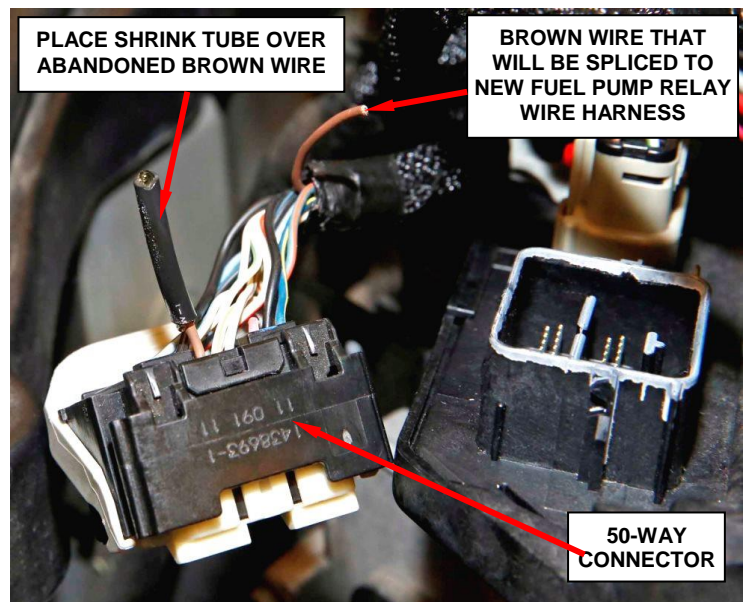

Figure 16 – Insulate Brown Abandoned Wire
10. Install shrink tube to the connector side brown wire to insulate the wire end. This wire will no longer be used (Figure 16).